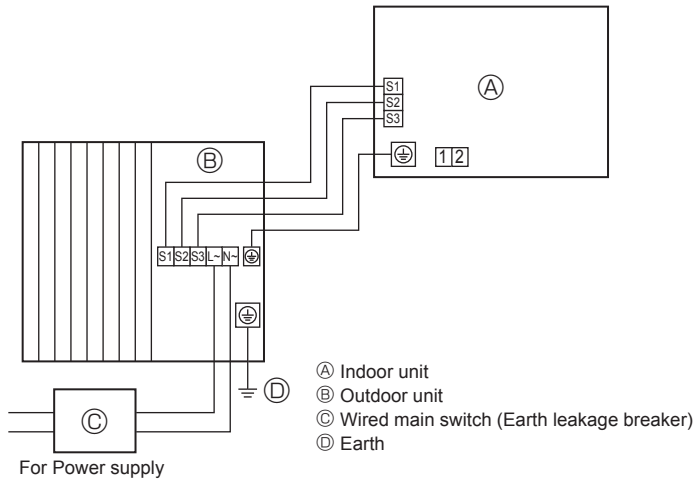
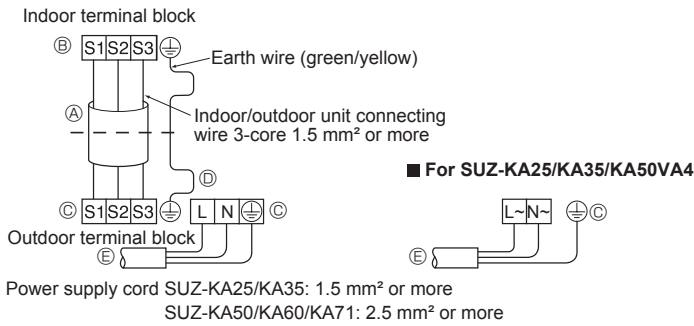
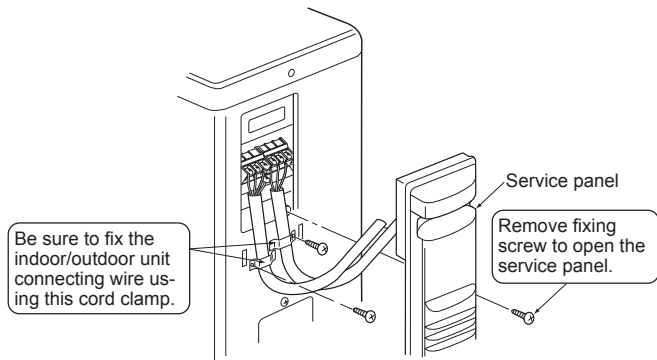

Fig. 6-1
Fig. 6-2
Fig. 6-3
6.1. Outdoor unit (Fig. 6-1, Fig. 6-2, Fig. 6-3, Fig. 6-4)
- ① Remove the service panel.
- ② Wire the cables referring to the Fig. 6-1, Fig. 6-2, Fig. 6-3 and the Fig. 6-4.
- Perform wiring as shown in the diagram to the lower left. (Procure the cable locally) (Fig. 6-2)